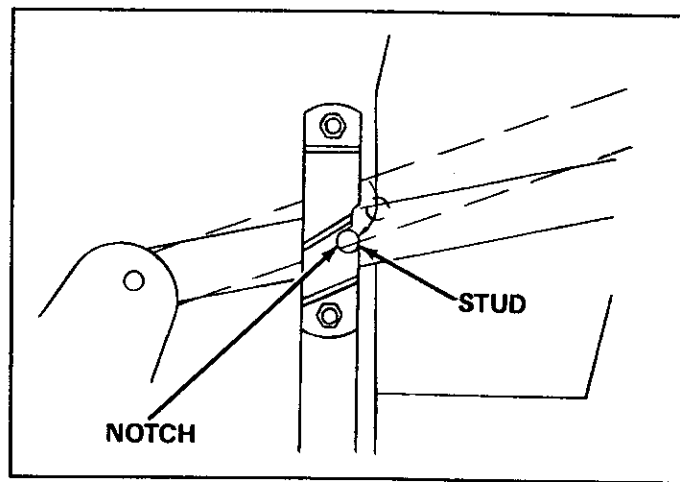

FIGURE 14
- Pull lift handle back so that stud in handle is pulled past handle lock bracket. Push down and forward on handle so that stud falls into notch on handle lock bracket to lock in position. See figure 14.
- Pull back and up on handle to release stud from notch in handle lock bracket. Lower by holding up on handle and pushing forward, allowing stud to pass through lock bracket. See figure 14.